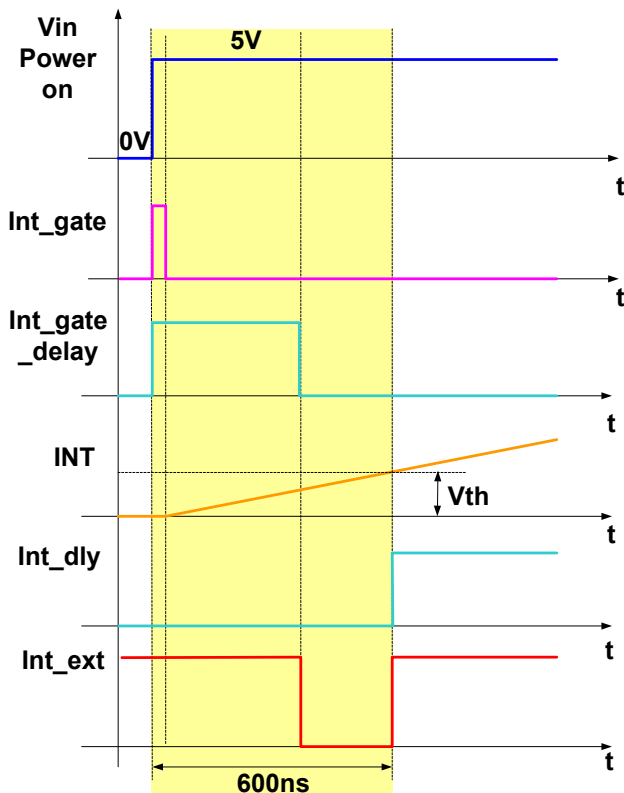

Figure 7: INT signal during Vin powers on
1.2) When the IC is in the shipping mode and a valid Vin powers on, the MP2661 could be woken up too. After Vin is preset, the MP2661 pulls INT low to indicate the event "Good input source detected" if the Vin is in the operation range. then, the MP2661 could be woken up from the shipping mode by the INT signal. (see Figure 7).